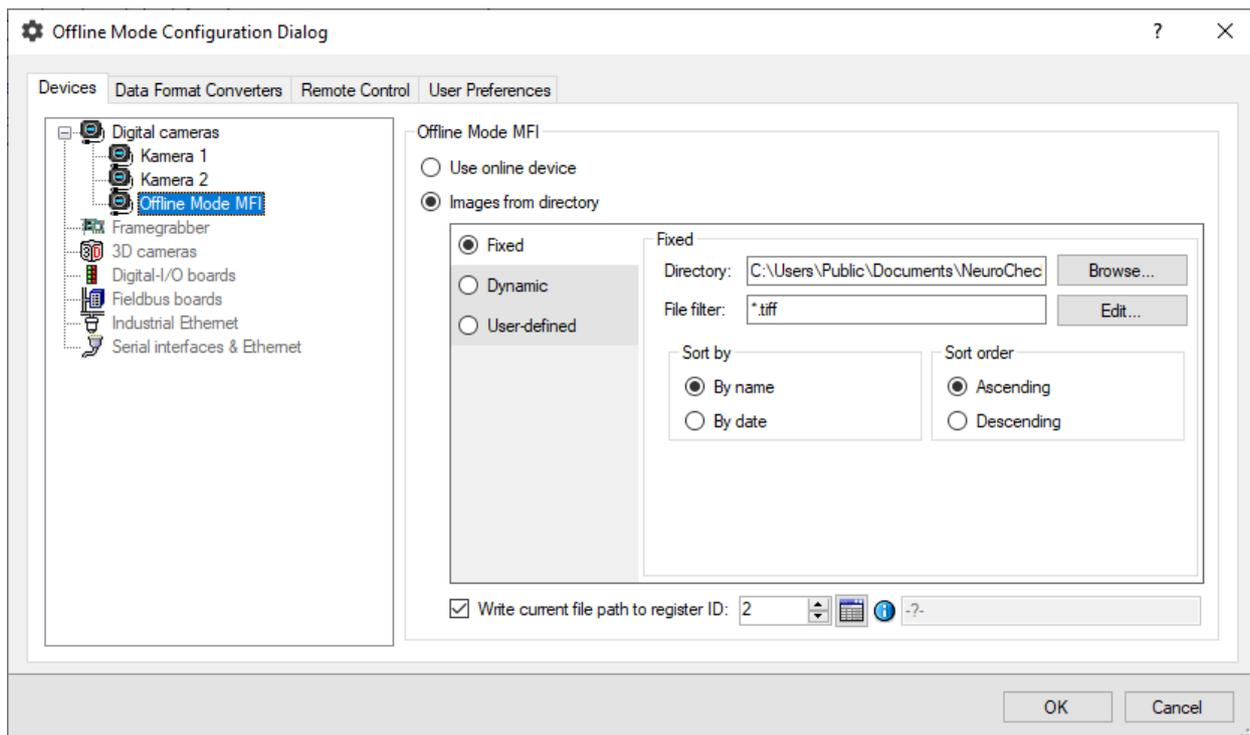

Figure 1: Multi-Frame Image Kamera
2. Create a virtual camera that loads the image files in Offline Mode. Specify the desired directory and file filter (e.g. *.tiff) for this camera in the offline mode configuration. Also write the file path of the current file to the register with ID = 2 (see Figure 1).